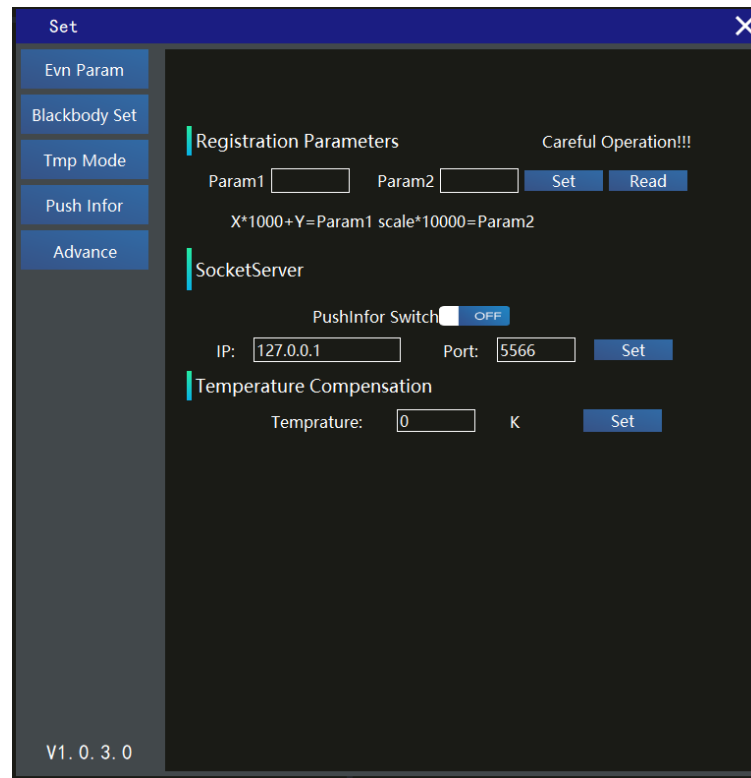

Figure 14 Advance Function
5.Advance function: as shown in figure 14.